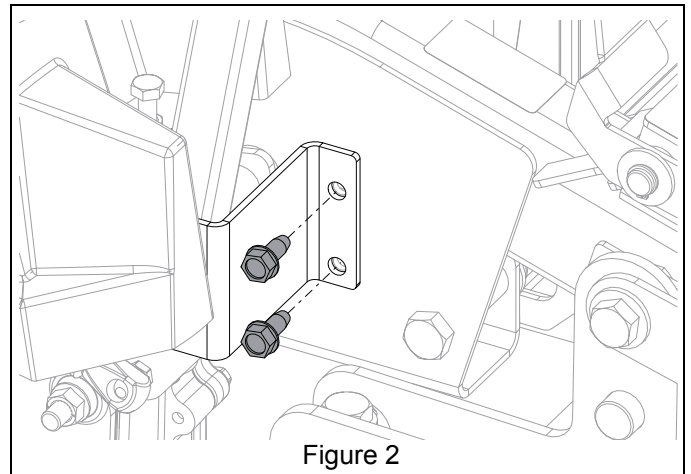

Figure 2
4. Remove and retain two tapping screws securing front of each steering lever pivot bracket. See Figure 2.